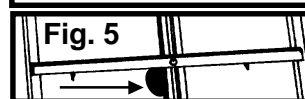

Fig. 5
8. To adjust the height of the Upper Canvas support, loosen the large black plastic knob on the back of the easel and move the canvas support to the desired height and then re-tighten the knob. See FIG. 5